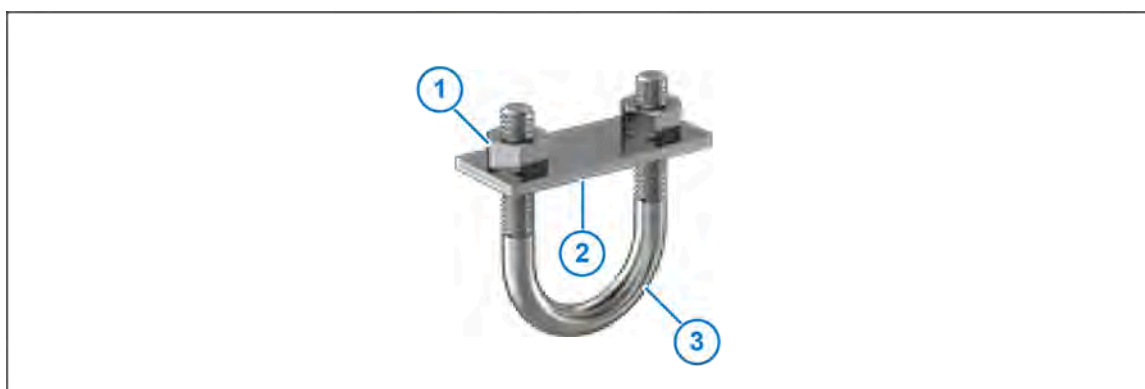

Figure 32: Disassemble the U-bolt
1. Remove and keep the nuts (Figure 32, Item 1) and mounting plate (Figure 32, Item 2) for the supplied U-bolt (Figure 32, Item 3).
See Figure 32